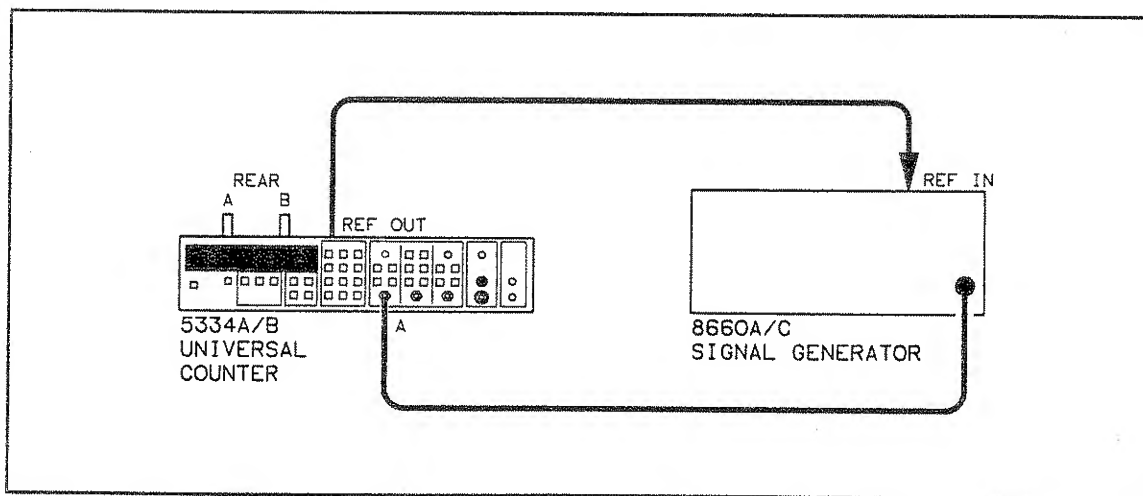

Figure 4-6. Channel A Frequency and Sensitivity Setup for Option 060
4. Connect the signal generator to the HP 5334A/B front panel Input A as shown in *Figure 4-6*.